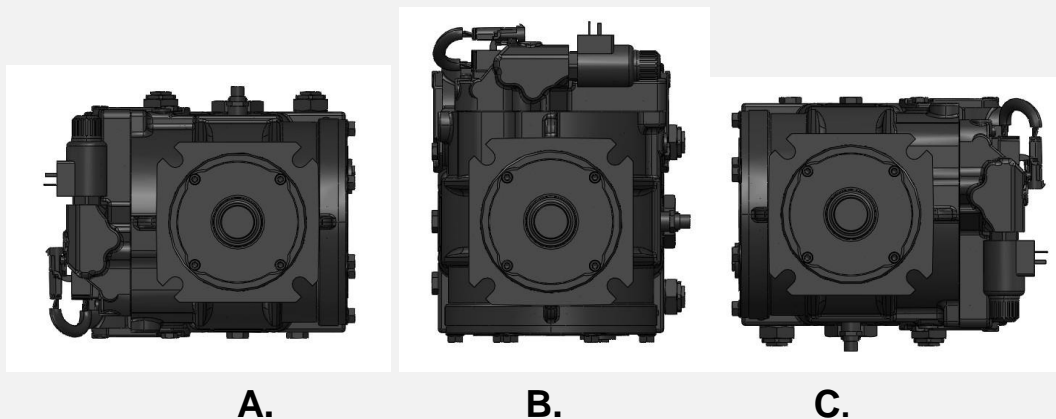

Figure 4.2: Allowable Primary Pump Orientations
- There are three possible pump orientations (A, B, or C) as shown in Figure 4.2; use different orientations for ground clearance or hose routing.